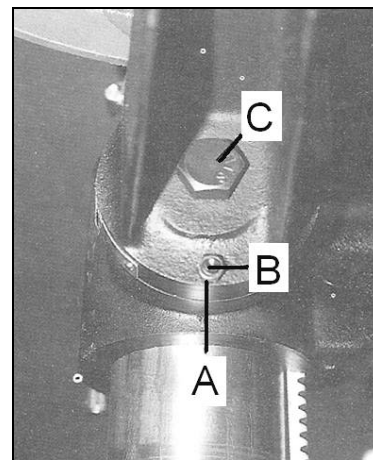

Fig 13
Remove the alignment pin (B, Fig 13) first by turning the nut (A) clockwise.